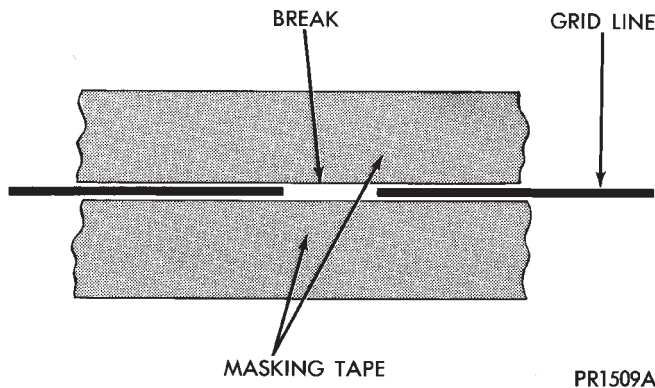

Fig. 5 Grid Line Repair — Typical
(1) Mask repair area so conductive epoxy can be extended onto the line or the bus bar (Fig. 5).
(2) Follow instructions in repair kit for preparing damaged area.
(3) Remove package separator clamp and mix plastic conductive epoxy thoroughly. Fold in half and cut center corner to dispense epoxy.
(4) For grid line, mark off area to be repaired with masking tape or a template (Fig. 5).
(5) Apply conductive epoxy through slit in masking tape. Overlap both ends of the break by 19mm (3/4 inch).
(6) For a terminal or pigtail replacement, mask adjacent areas so epoxy can be extended onto line as well as bus bar. Apply a thin layer of epoxy to area where terminal was fastened and to adjacent line.
(7) Apply a thin layer of conductive epoxy on terminal and place terminal on desired location. To prevent terminal from moving while the epoxy is curing, it must be wedged or clamped.
(8) Carefully remove masking tape from grid line.